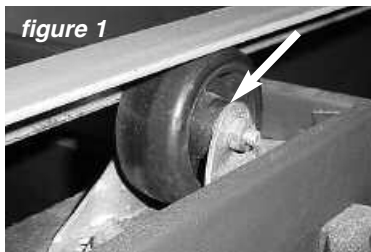

figure 1
2. Every 2 to 3 years your Anatomotor should be oiled. With top removed, apply 2 or 3 drops of common household oil to each side of all of the six casters that the table top glides back and forth on (see fig. 1).